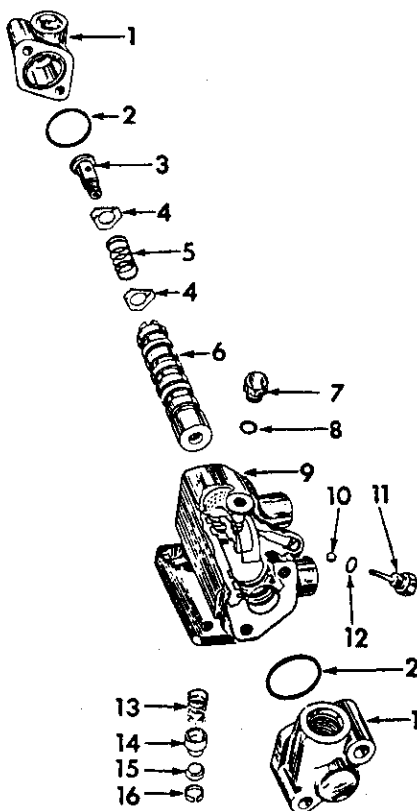

Fig. 24—Exploded view of the control (pilot) valve.
With valve removed, disassemble as follows: Refer to Fig. 24 and remove end caps (1) with "O" rings (2). Pull spool and centering spring assembly from valve body. Place a punch or small rod in hole of centering spring screw (3) and remove screw, centering spring (5) and centering spring washers (4) from spool. Remove plug (11), "O" ring (12) and circulating check ball (10). Remove retainer (16), seat (15), and pressure check valve (14) and spring (13).